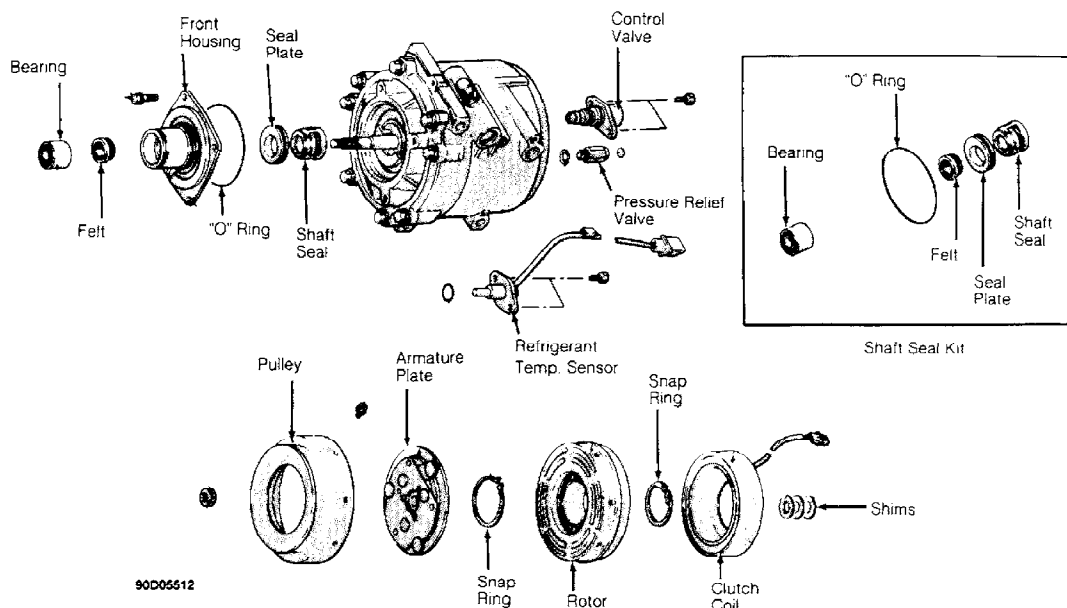

Fig. 15: Sanden Scroll Compressor
- 2) Remove armature plate. See Fig. 15. Remove snap ring with internal snap ring pliers. Remove clutch hub. Remove snap ring and clutch coil.